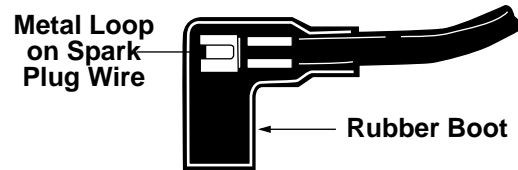

Figure 12
1. Attach spark plug wire to spark plug. Make certain the metal loop on the end of the spark plug wire (inside the boot) is fastened securely over the metal tip on the spark plug. See Figure 12.